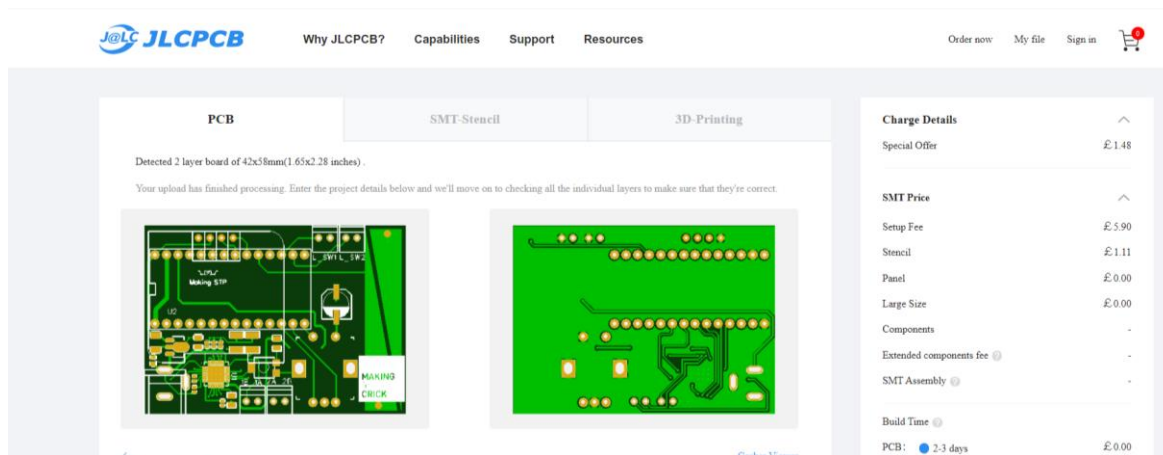

Figure 3: Gerber upload.
- Upload the Gerber files (Figure 3):